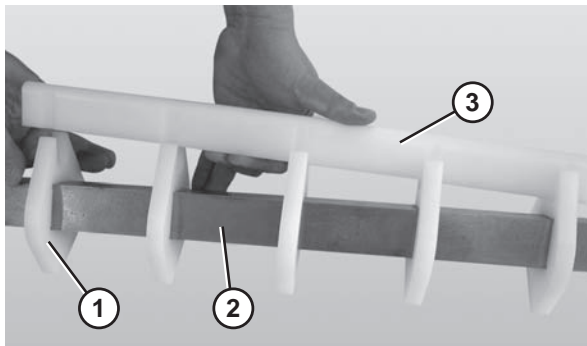

Figure 73
1. Slide the nose bar pucks (**Figure 73, item 1**) onto the nose bar drive post (**Figure 73, item 2**).
2. Attach the nose bar wear strip (**Figure 73, item 3**).